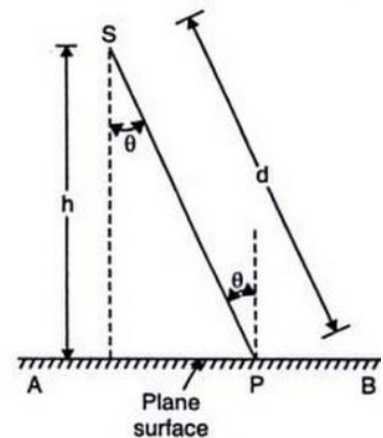

Fig. 1.9
**Solution.** Refer to Fig. 1.9. Consider a point  $P$  on the plane surface  $AB$  where illumination due to light source  $S$  of candle power  $C.P.$  at a height  $h$  from the surface  $AB$  is to be determined.